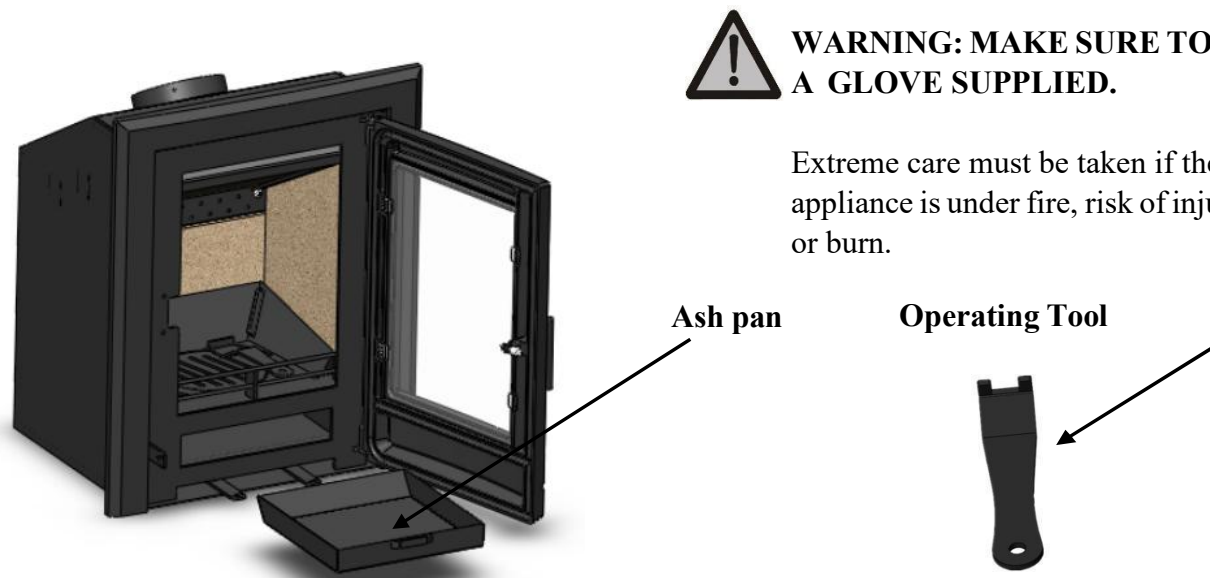

Fig. 7. Ash Pan and Operating Tool illustration (refer to the figure in the manual for visual aid).
3. Insert the **forked end** of the operating tool into the ash pan handle (see Fig. 7).